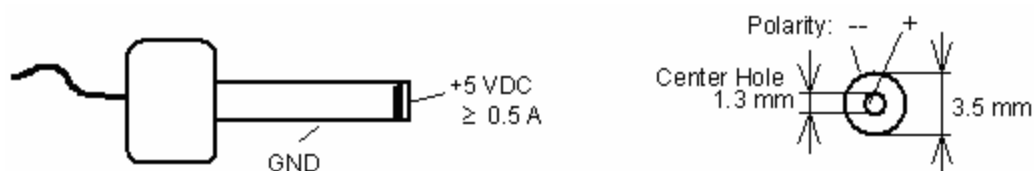

Figure 3: Power Connector
- Connect the included 5V power adapter to the power socket X304 on the phyCORE Carrier Board (refer to *Figure 3* for the correct polarity).